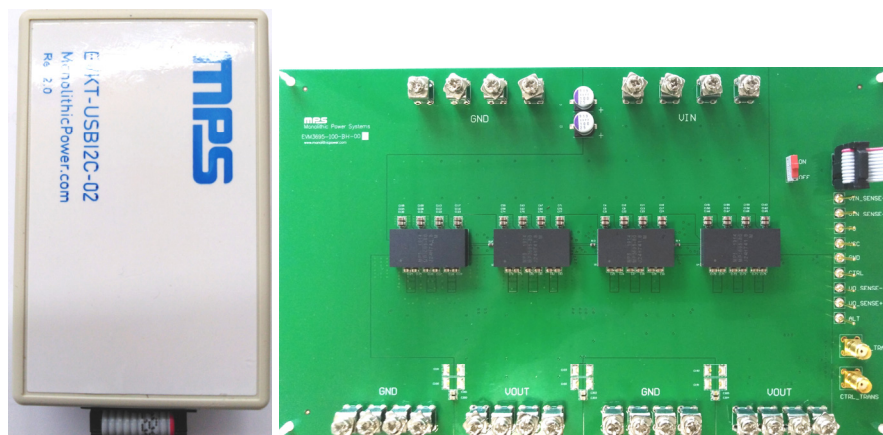

Figure 3: Connecting the I²C Communication Interface
2. Connect the EVKT-USBI2C-02 to the PC using the USB cable (see Figure 3).